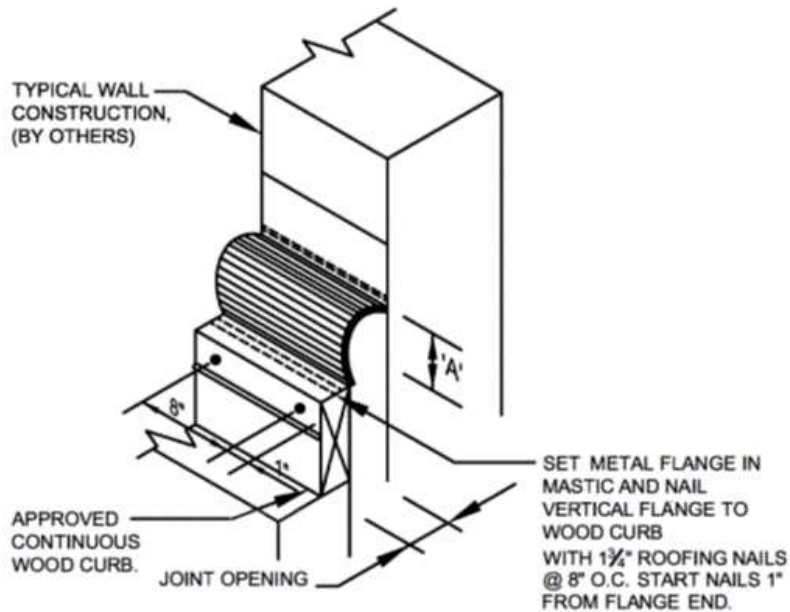

Figure 5
5. Set flange in membrane compatible mastic and nail to vertical surface of roof curb w/ (1) 1 3/4" roof nail at 8" o.c. start nails 1" from flange end. **See Figure 5**